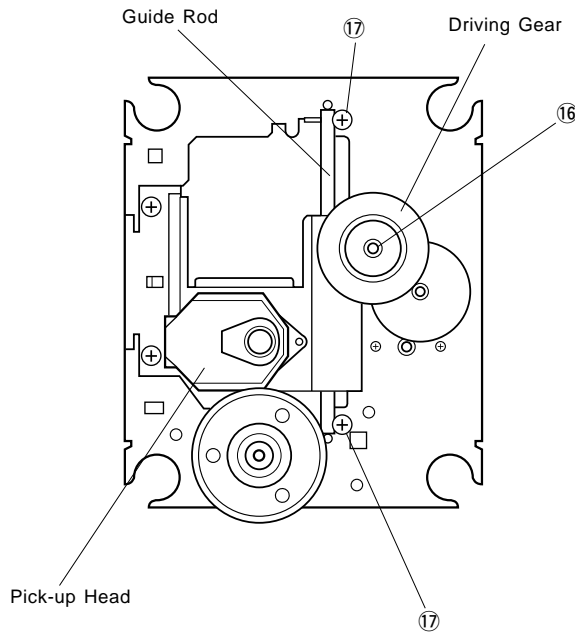

Fig. 13
- Remove a washer (16) and then remove the Driving Gear in Fig. 13.
- Remove 2 screws (17), pull out the Guide Rod and then remove the Pick-up Head in Fig. 13.